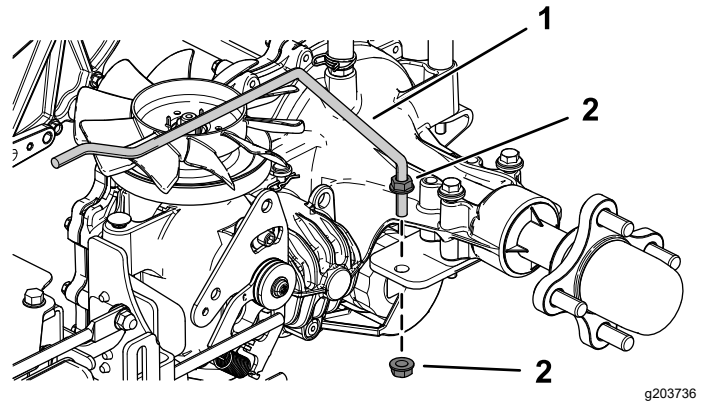

**Figure 5**
1. Remove the existing rear support rods from the hydrostat (Figure 5).